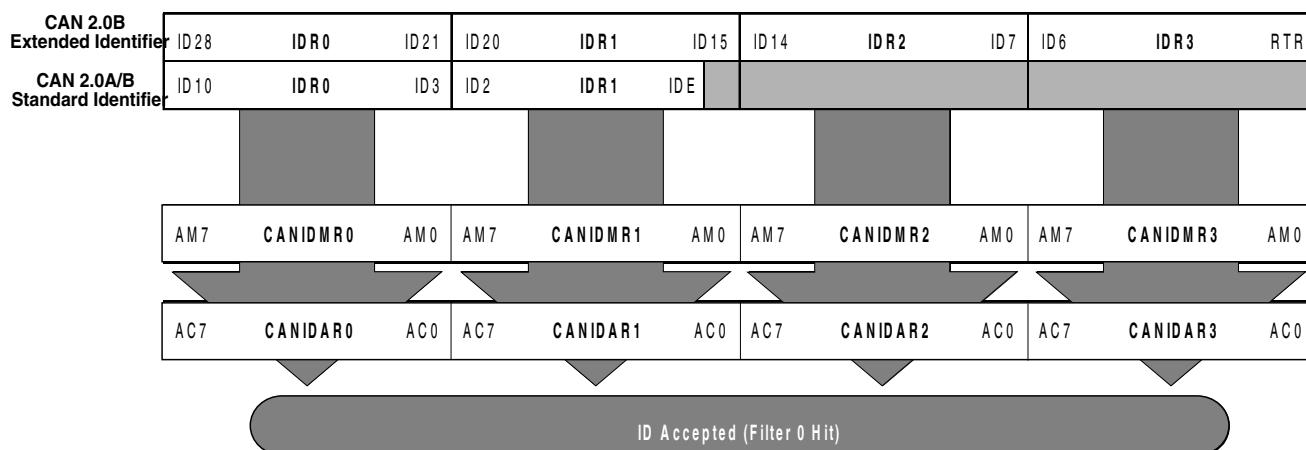

Figure 30-82. 32-bit Maskable Identifier Acceptance Filter
- The 11 bits of the standard identifier plus the RTR and IDE bits of the CAN 2.0A/B messages . This mode implements two filters for a full length CAN 2.0B compliant extended identifier. Although this mode can be used for standard identifiers, it is recommended to use the four or eight identifier acceptance filters.Figure 30-82 shows how the first 32-bit filter bank (CAN_IDAR0–CAN_IDAR3, CAN_IDMR0–CAN_IDMR3) produces a filter 0 hit. Similarly, the second filter bank (CAN_IDAR4–CAN_IDAR7, CAN_IDMR4–CAN_IDMR7) produces a filter 1 hit.